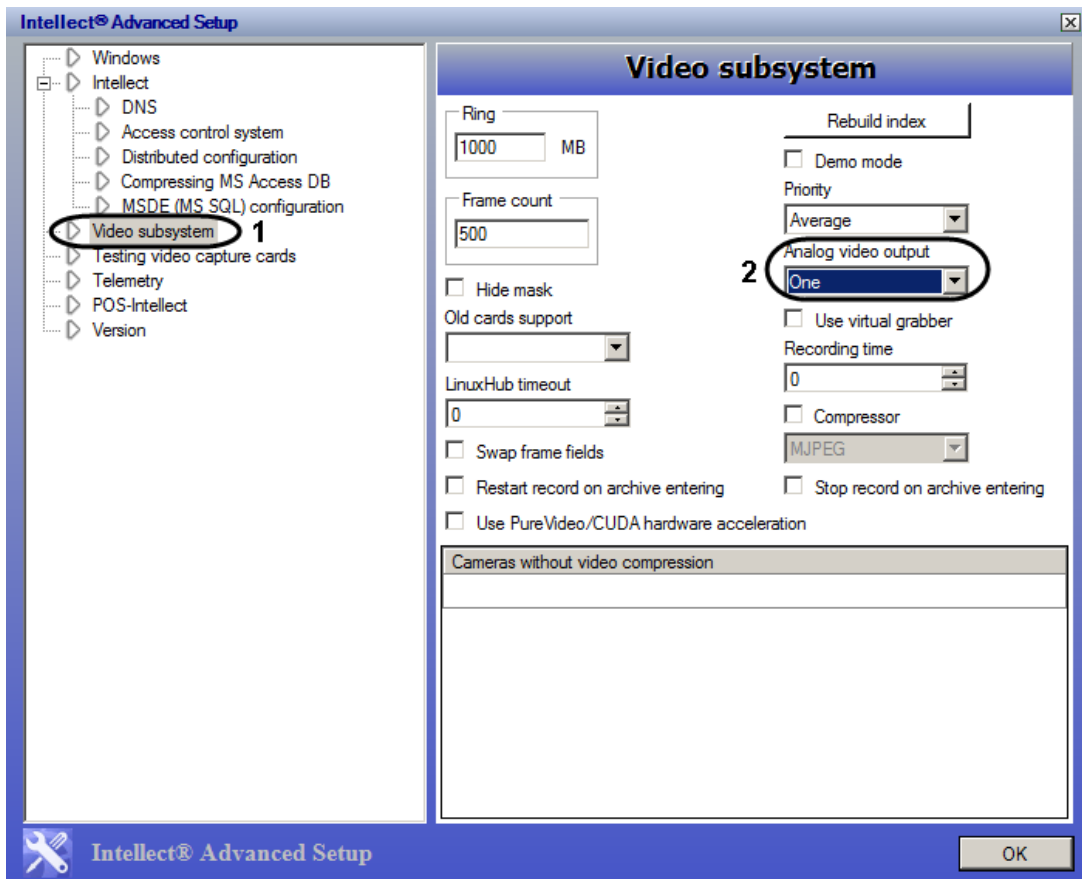

Figure 3.1-8 Extended Intellect configuration. Changig the value of the Analog video out parameter
2. Select the **Video subsystem** section (Figure 3.1-8, 1).
3. In the **Analog video out** list select the **One** item to activate outputting video from cameras connected to different video capture cards to one analog monitor (Figure 3.1-8, 2).
4. To save changes click **OK** (Figure 3.1-8).